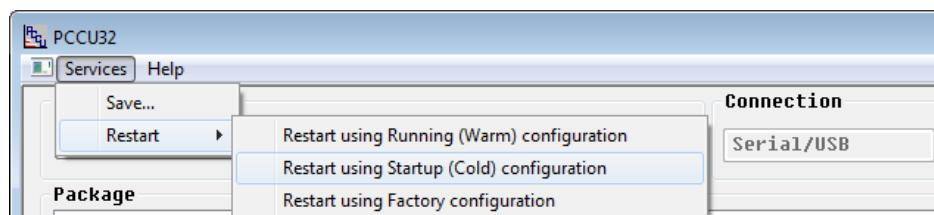

Figure 80: Cold start with device loader
5. Click **Services** in the menu bar, **Restart** option, and **Restart using Startup (Cold) configuration option** (Figure 80).